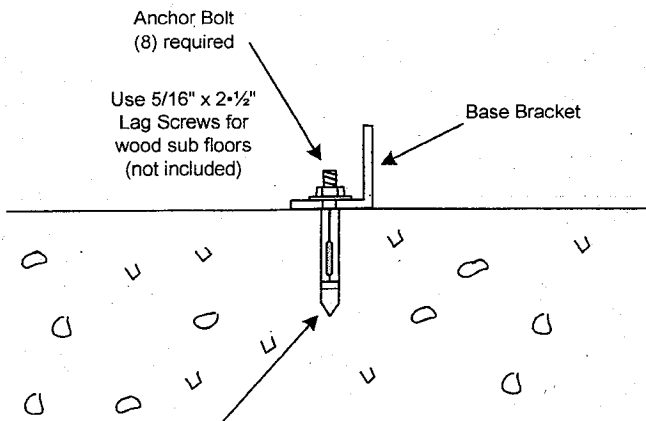

Figure 2
7. Remove frame and cut a flap in carpet where Base Bracket will come in contact with floor. Drill 5/16\" holes in concrete 1-3/4\" deep and install anchors with metal sleeve so that sleeve is flush with the floor. Use hammer to insert anchor into floor Figure 2 a. If installing on wood sub-floors, drill small pilot hole for 5/16\" x 1 1/2\" Lag Screws and washers (not included).
Figure 2 a